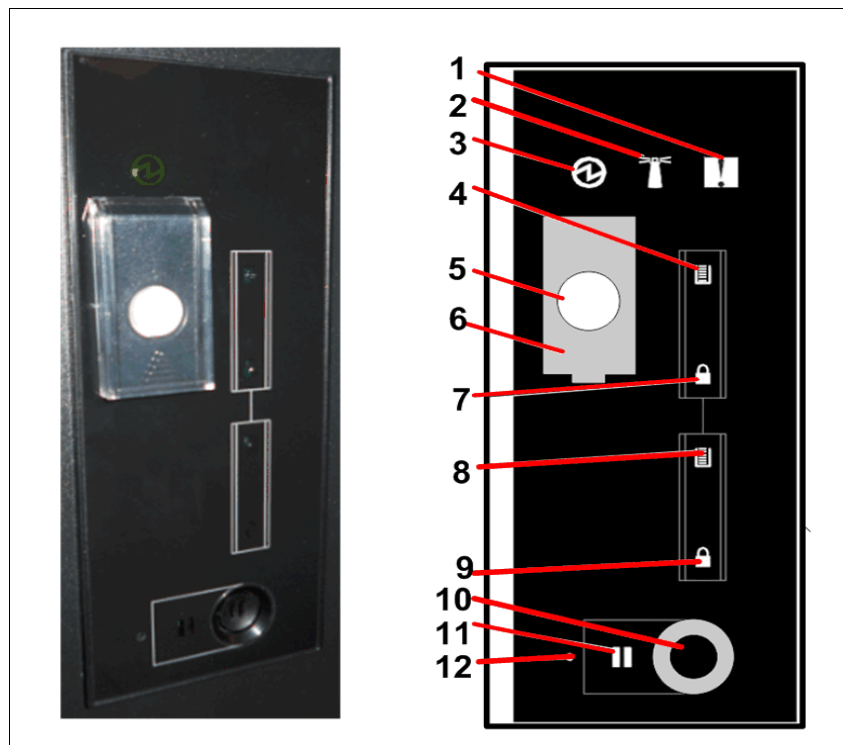

Figure 1-50 Display panel
The display panel on the base frame of the TS4500 tape library houses the library power and pause buttons. It displays library and I/O status indicators, as shown in Figure 1-50.
You pause the library by pressing the pause button on the display panel (number 10 in Figure 1-50 on page 58) on the base frame of your TS4500 tape library. This pause button causes the library to move the cartridge accessor to the base frame and pause operations for 30 seconds or while a frame door is open. The pause light next to the pause button stops flashing, and it illuminates solid to indicate that the library is paused (number 11 in Figure 1-50 on page 58).
1. From the display panel on the base frame of the library, slide the plastic cover that protects the power button up to make available the button (number 6 in Figure 1-50 on page 58).
2. Press the power button (number 5 in Figure 1-50 on page 58) and wait to see that the green power indicator turns on and stays on.
2. Pause the library by pressing the pause button on the display panel (number 10 in Figure 1-50 on page 58) on the base frame of your TS4500 tape library. This pause button causes the library to move the cartridge accessor to the base frame and pause operations for 30 seconds or while a frame door is open. The pause light next to the pause button stops flashing, and it illuminates solid to indicate that the library is paused (number 11 in Figure 1-50 on page 58).
3. From the display panel on the base frame of the library, slide the plastic cover that protects the power button up to make available the button (number 6 in Figure 1-50 on page 58).
4. Press the power button (number 5 in Figure 1-50 on page 58) and wait until the green power indicator light turns off.
Press the Access Recovery button (see Figure 1-50 on page 58) then, log in to the GUI by using admin for the user name and password.